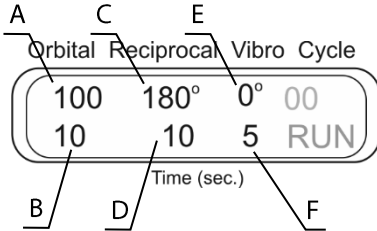

Fig. 8
6.9.3. **3D orbital + 3D reciprocal + pause** (fig. 8). Set the speed (**A**, 1 - 100 rpm) and time (**B**, 1 - 250 s) of 3D orbital motion. Set the turning angle (**C**, 0 - 360°) and time (**D**, 1 - 250 s) for 3D reciprocal motion. Set the angle of (**E**) 3D vibro type motion to zero. Set the time for 3D vibro motion (**F**, 1 - 5 s) - this is the time of pause duration.